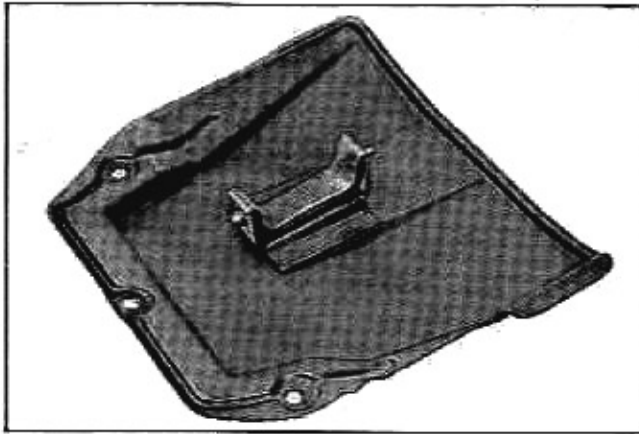

Fig. 10-3 Engine Top Shield Assembly (Underside)
2. Remove engine fan top shield assembly. Note that the upper portion of the radiator is held by a "cradle" type bracket on the bottom side of the engine fan top shield assembly (Fig. 10-3).